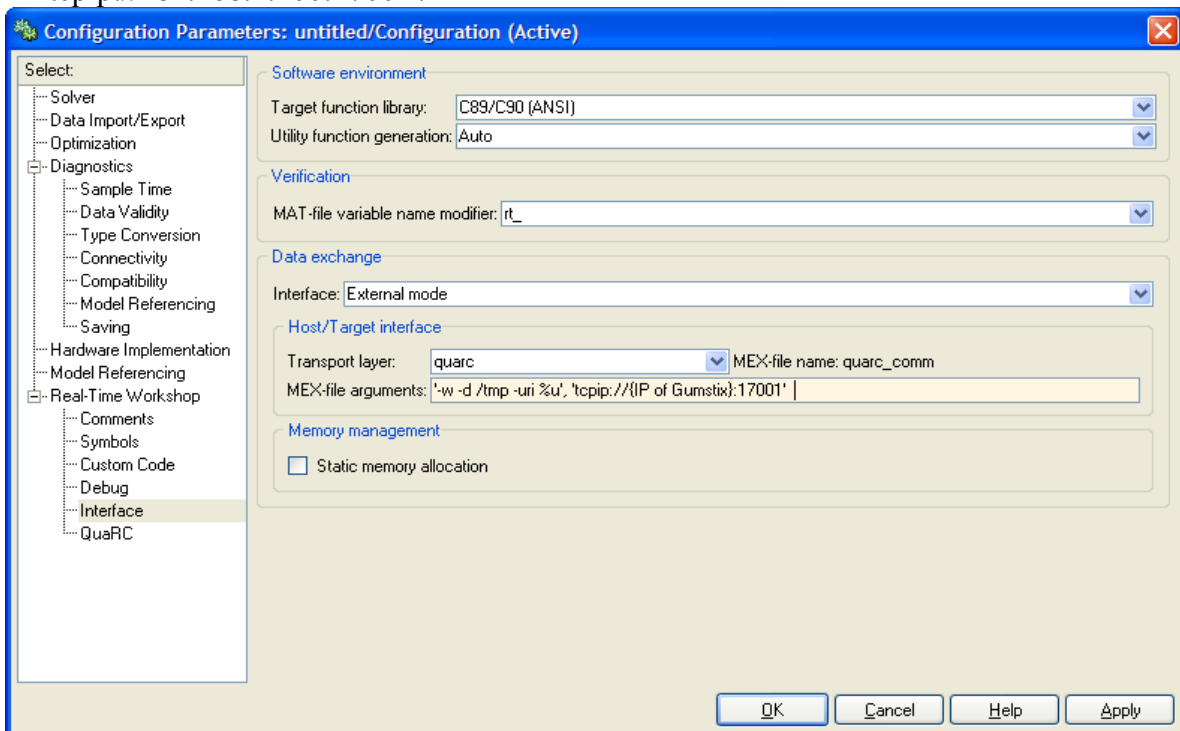

Figure 11: Configuring MEX-file Arguments
4. Next, choose Interface on the left hand pane. Under the MEX-file arguments, type `'-w -d /tmp -uri %u', 'tcpip://{IP of Gumstix}:17001'`. Include the single quotation marks (Figure 11). Replace {IP of Gumstix} with the IP of your Gumstix, e.g. `'tcpip://182.168.1.200:17001'`.